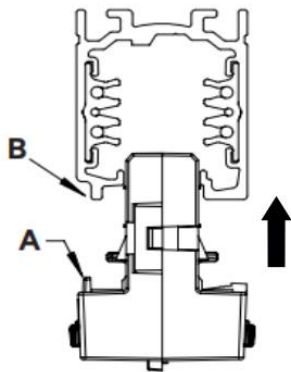

FIG. 3
- Insert the fitting into the track (A), ensure the key in adaptor (B) matches the groove in the track (Fig. 3).